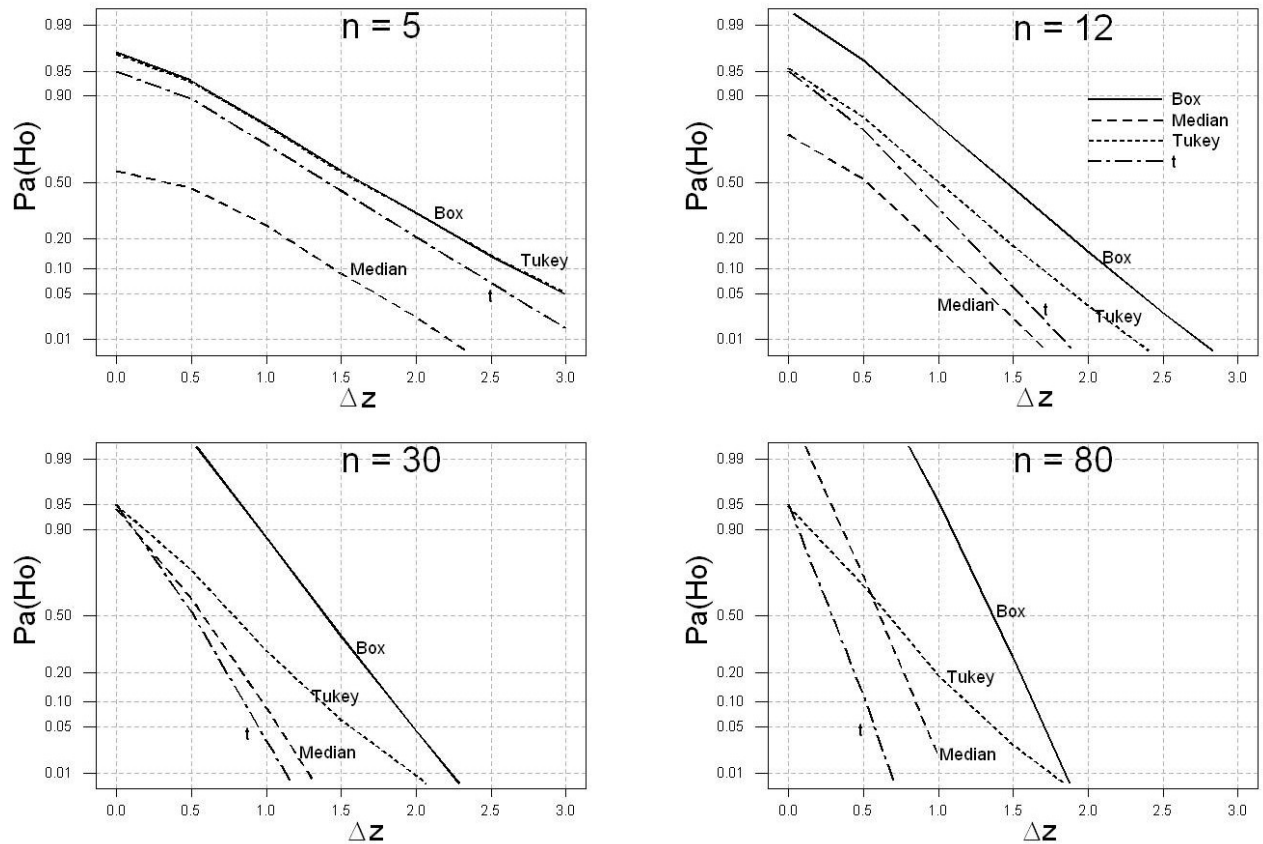

FIGURE 3.2. Operating characteristic curves for two-sample tests for location.
14. A MINITAB macro similar to the one created in Problem 3.12 was written to compare the performance of the two-sample t test, Tukey's quick test, and the two boxplot slippage tests. The macro considered 10,000 pairs of normal homoscedastic samples of size $n = 5, 12, 30,$ and 80 with increasing differences between the two population means. The resulting approximate OC curves are shown in Figure 3.2. The OC curves labeled Box and Median correspond to the first and second boxplot slippage tests, respectively, and the horizontal scale (Δz) indicates the difference between the two population means in standard deviation units. That is, $\Delta z = 1$ corresponds to $|\mu_1 - \mu_2| = 1\sigma_x$.